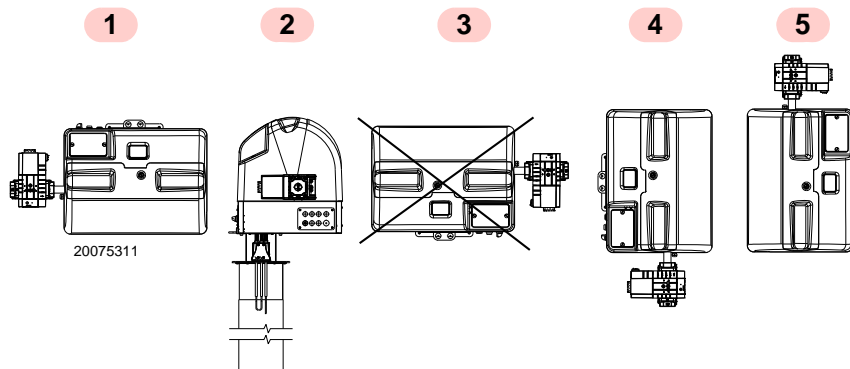

Fig. 11
- The burner is designed to operate only in positions 1, 2, 4 and 5 (Fig. 11).
- All the positions require the installation of the gas valve with coils pointing upwards or horizontal (Fig. 11).